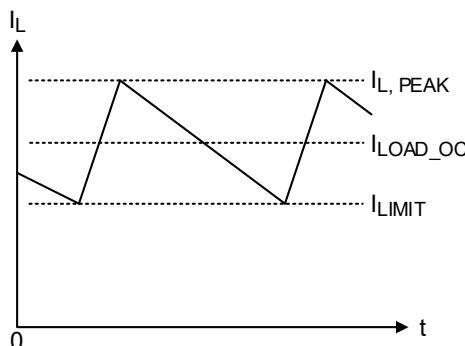

Figure 5. “Valley” Current Limit
16.7 Current Limit Setting (CS)
The RT8237M has a cycle-by-cycle current limit control. The current limit circuit employs a unique “valley” current sensing algorithm. If the magnitude of the current sense signal at PHASE is above the current-limit threshold, the PWM is prevented from initiating a new cycle (see Figure 5). To ensure both accuracy and cost-effectiveness, the RT8237M supports temperature-compensated MOSFET RDS(ON) sensing.